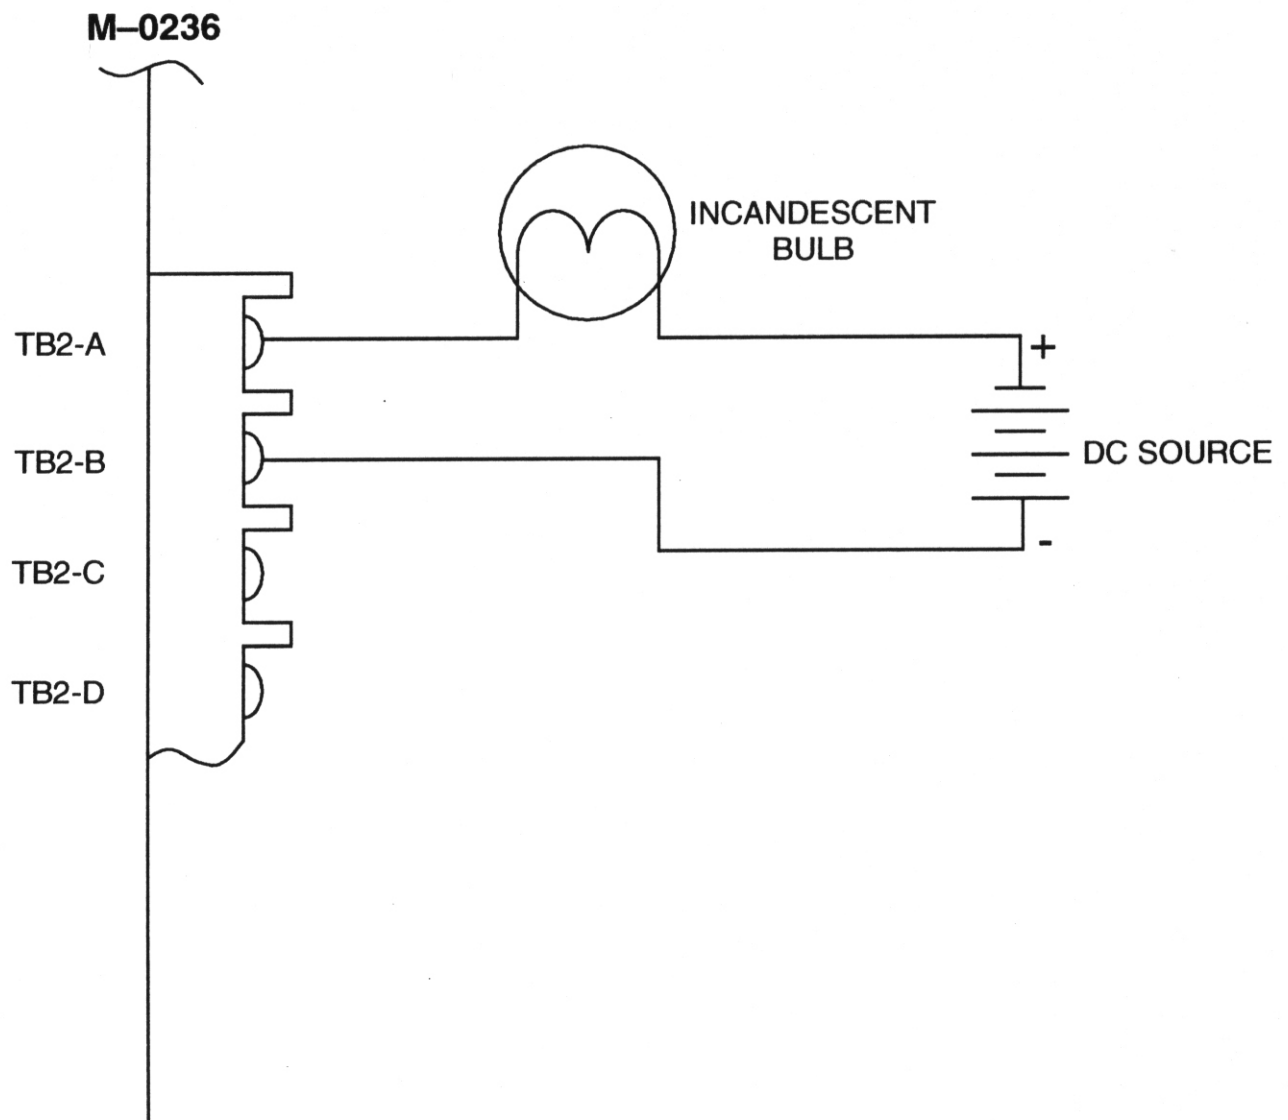

FIGURE 3 Breaker Close Circuit Test Setup
6. Wire an active load, such as a 100 W incandescent bulb in series with a 125 V dc power source. Attach the most positive end of the series-connected active load to TB2-A and the most negative end to TB2-B (see Figure 3).